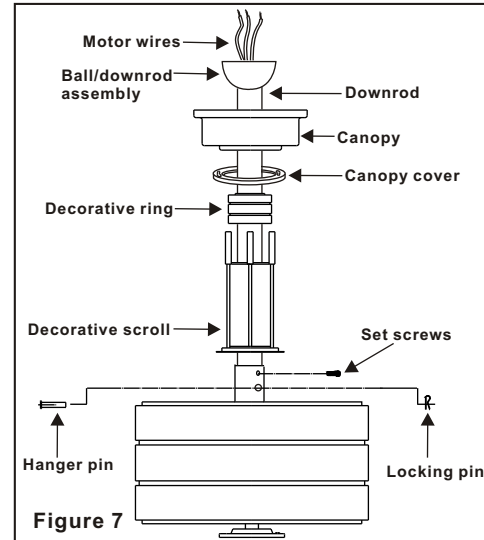

Figure 7
**Step 6.** Route wires exiting from the top of the fan motor through the decorative scroll, decorative ring, canopy cover, canopy and then through the ball / downrod.(Fig. 7)
**Step 7.** Align the holes at the bottom of the downrod with the holes in the collar on top of the motor housing. Carefully insert the hanger pin through the holes in the collar and downrod. Be careful not to jam the pin against the wiring inside the downrod. Insert the locking pin through the hole near the end of the hanger pin until it snaps into its locked position. (Fig.7)
**Step 8.** Tighten two set screws on top of the fan motor firmly (Figure 7)